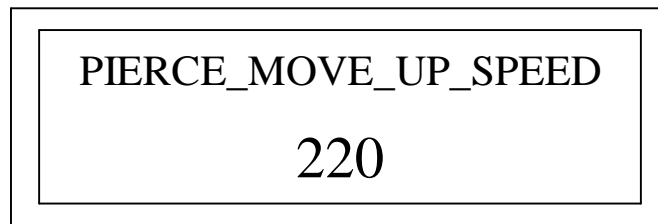

Fig. 26: PIERCE_MOVE_UP_SPEED
21)、PIERCE_MOVE_UP_SPEED: Dynamic Pierce torch lift up speed. Fig.26